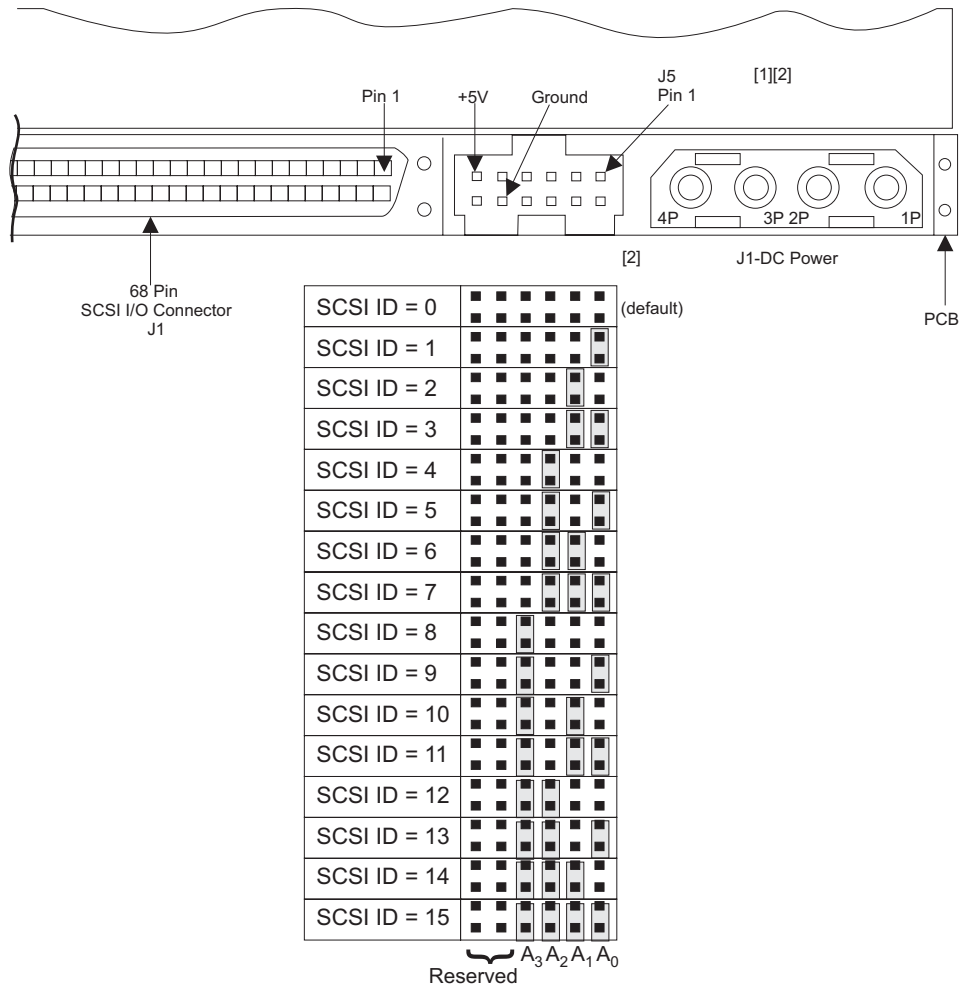

Figure 110. SAN Volume Controller 2145-4F2 disk drive jumpers
9. Check whether the old disk drive has any jumpers installed. If it does, install matching jumpers onto the new disk drive. See Figure 110 on page 366.